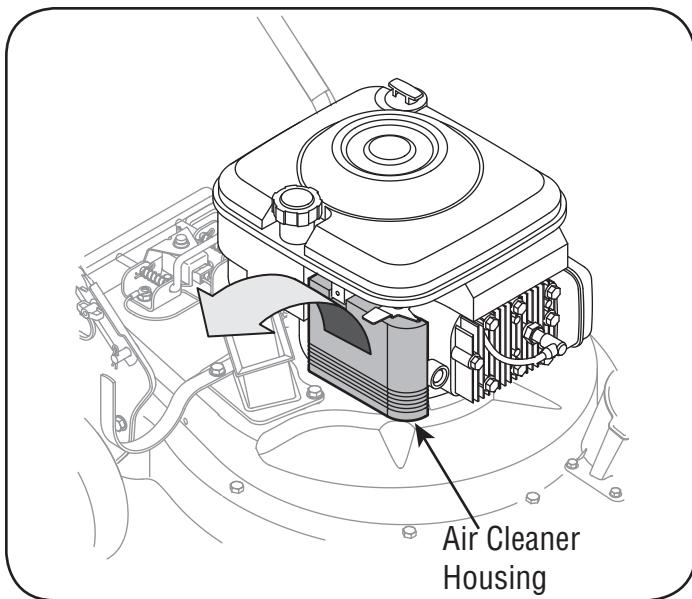

Figure 15
1. Loosen screw and tilt plastic housing cover on side of engine down. See Figure 15.
Clean the spark plug and reset the gap to $.030"$ at least once a season or every 50 hours of operation. See Figure 15. Spark plug replacement is recommended at the start of each season. Refer to engine parts list for correct spark plug type.